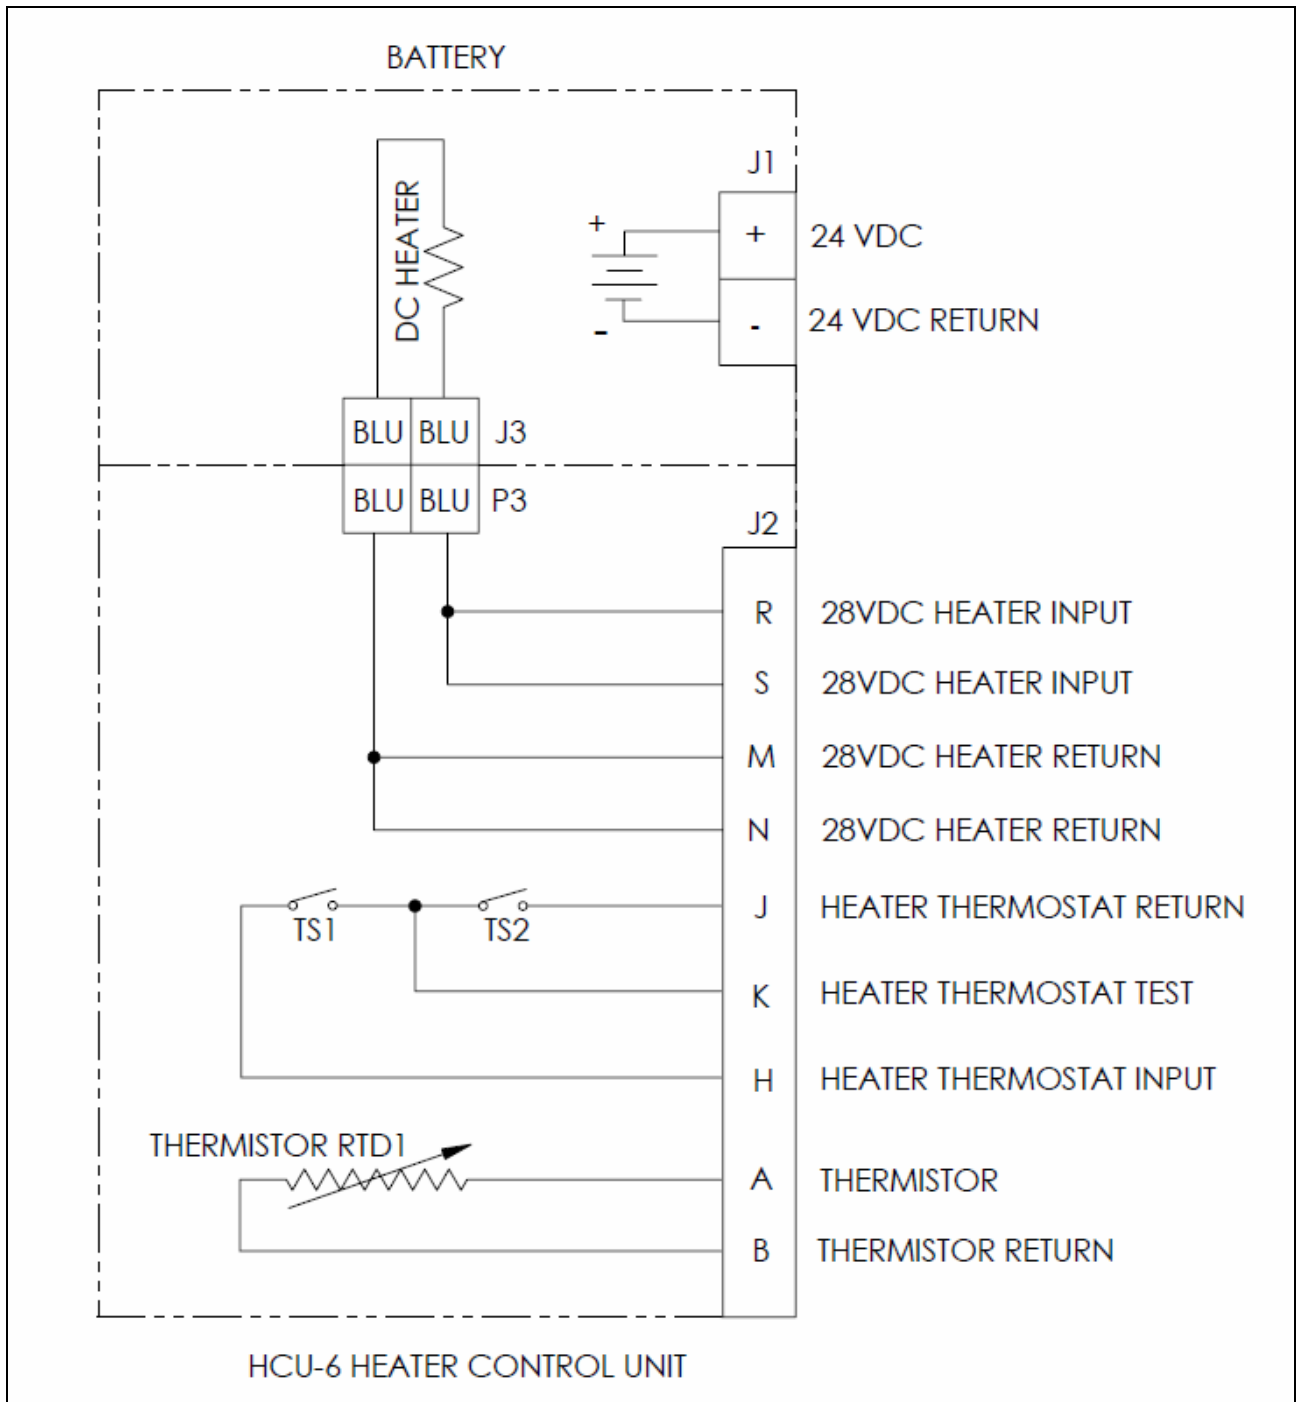

Figure 1. Schematic Diagram for HCU-6
- Refer to Figure 1 for electrical schematic of HCU and Table 1 for a list of test equipment.